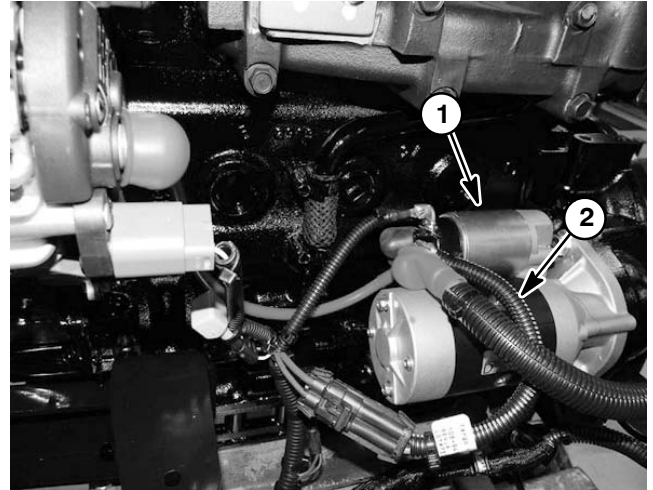

Figure 28
Your Groundsmaster uses two (2) fusible links for circuit protection. These fusible links are located in a harness that connects the starter B+ terminal to the wire harness (Fig. 28). If either of these links should fail, current to the protected circuits will cease. Refer to wire harness drawings in Chapter 9 – Foldout Drawings for additional fusible link information.